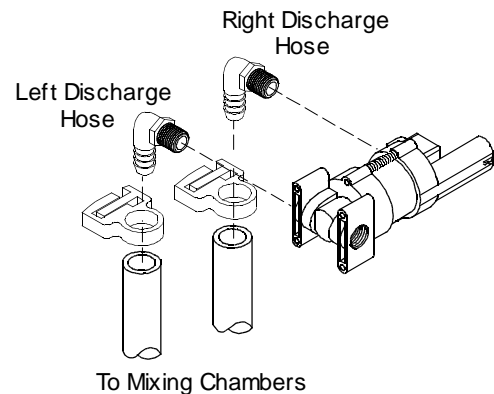

Figure 4: Discharge hose mounting
1. One 30 foot length of 1/2" discharge hose is included and may be cut as needed. Begin by attaching the 1/2" discharge hose to the hose barbs on the solenoid valve on the foamer unit. It is important that you determine which hose barb is for the left and for the right side. See Figure 4 on page 5. Clamp the hose onto the hose barbs with the included nylon hose clamps.